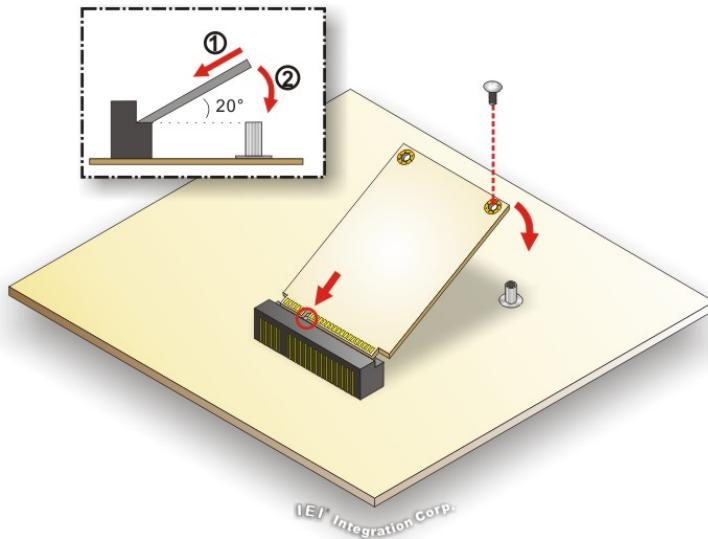

Figure 3-3: mSATA Module Installation
Step 4: Secure the mSATA module with the retention screw. Push the other end of the mSATA module down and secure the module with the previously removed retention screw (**Figure 3-3**).
PPC-F06B-BT. **Figure 3-3** shows that the system is installed with a high-profile SATA DOM.